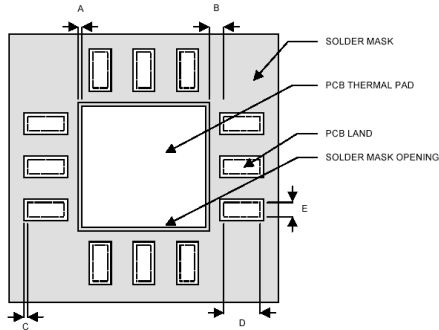

Figure 12. PCB Land and Solder Mask Recommendations
1. PCB land and solder masking recommendations are shown in Figure 12.